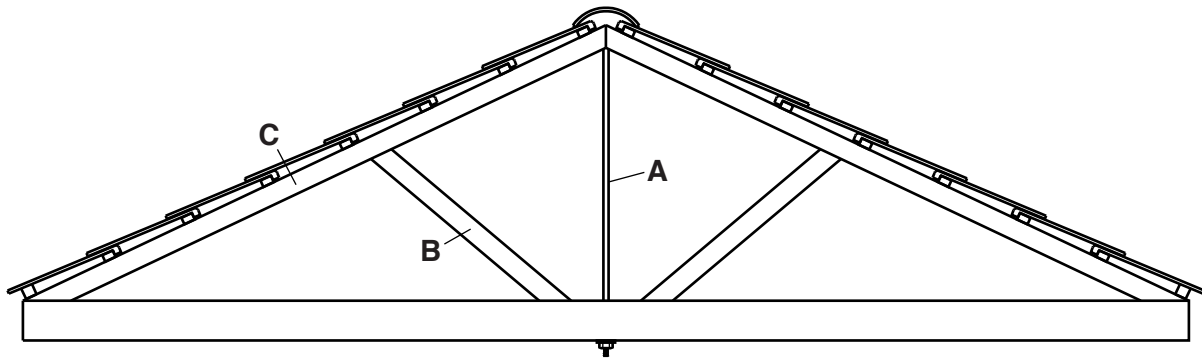

Fig. 6
- 8 Fig. 6 shows a roof truss made from softwood with a steel tie rod **A**.